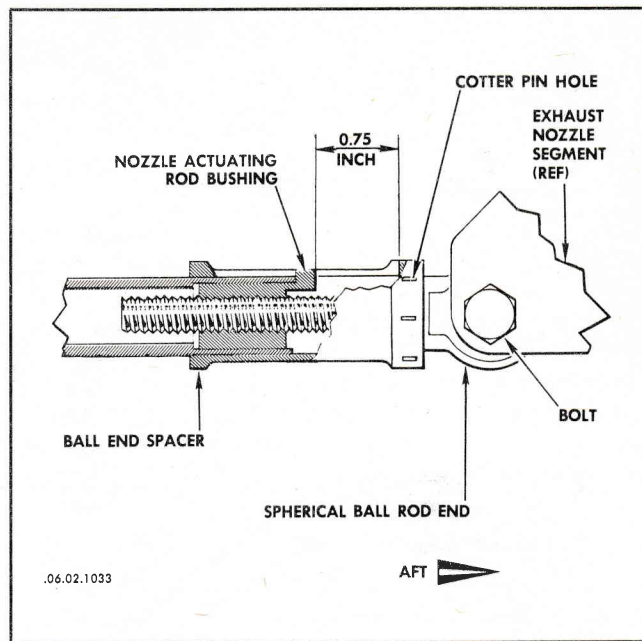

Figure 3-2. Afterburner Nozzle Adjustment
c. Rotate the spherical ball rod to set the tang on the bushing to the dimension shown in figure 3-2.
Applicable to F-106A airplanes 56-453, -454, 56-456 thru 57-245, 58-759 and subsequent; and 57-246, 57-2453 thru 57-2506 after incorporation of TCTO 1F-106-557. Applicable to F-106B airplanes 57-2508 thru 57-2515, 57-2532 and subsequent; and 57-2516 thru 57-2531 after incorporation of TCTO 1F-106-557. The engine idle thrust control system is provided to reduce engine thrust during airplane taxiing operations. The system is electrically controlled and pneumatically actuated. Actuation of the switch on the cockpit left console panel to the "ON" position opens the exhaust nozzle and results in approximately 40% reduction in engine idle thrust. This reduced thrust permits reduced taxi speed and landing gear brake wear. The idle thrust control circuit is routed through the left main landing gear safety switch to provide thrust reduction on the ground only. The pneumatic portion of the system consists of a selector valve and a converter valve installed on the engine. These valves route N_2 compressor bleed air, as an actuating signal, to the exhaust nozzle control valve, which ports air pressure to the exhaust nozzle actuating cylinders. See figure 3-2 for a schematic illustration of this system.